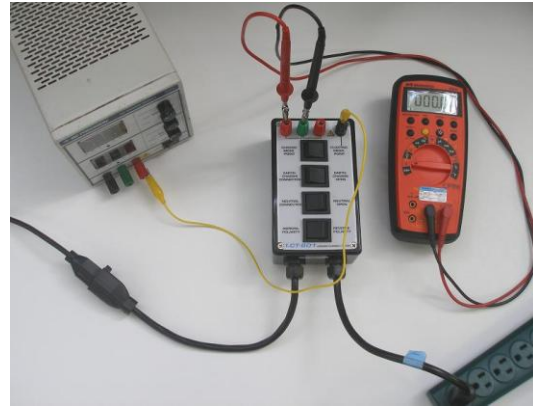

Figure 9 Leakage Test - Isolated
11. See Figure 9 and Table 9 for a Test Setup synopsis. This section is based on NFPA 99 Fig. 10.2.13.5.2.3, see below.